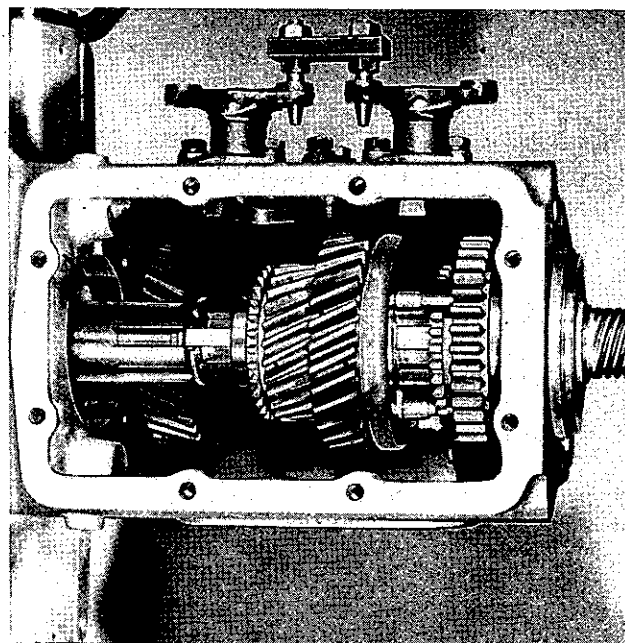

Fig. 10. Extracting mainshaft circlip with Churchill Tool No. 20SM-69
13. Remove mainshaft circlip with the special extractor shown in Fig. 10. The extraction of this circlip is made somewhat difficult by the adjacent thrust washer, which has three lugs, equally spaced, and engaging alternate splines on the mainshaft. Quite apart from the necessity to engage the three available splines with the full length prongs, in some cases it may be necessary to tap the circlip round on these prongs, to free it from its recess, before it can be withdrawn. A new circlip should always be used when re-assembling.